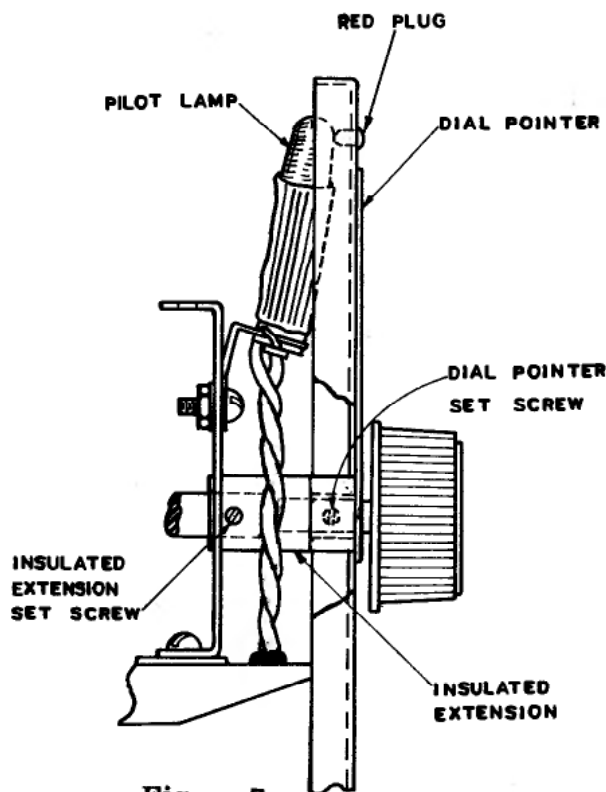

Figure 7
- () Install a #8 set screw in the insulated extension and in the pointer assembly. See Figure 7.